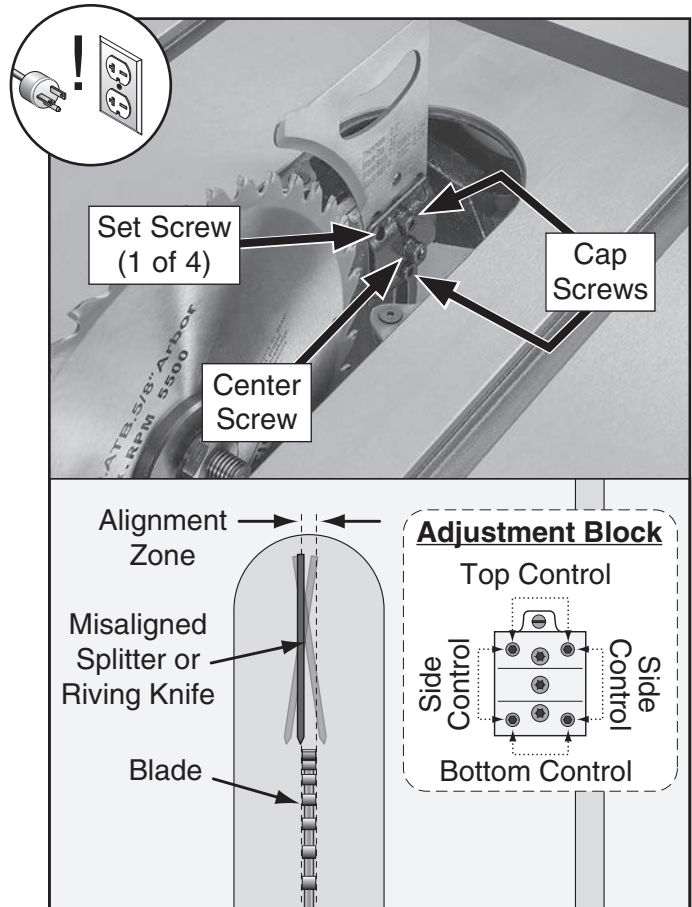

Figure 114. Set screws for adjusting spreader/riving knife position.
3. Loosen (2) cap screws on mounting block, then adjust either top or bottom control set screws or side control set screws (see **Figure 114**) to move it the needed direction.